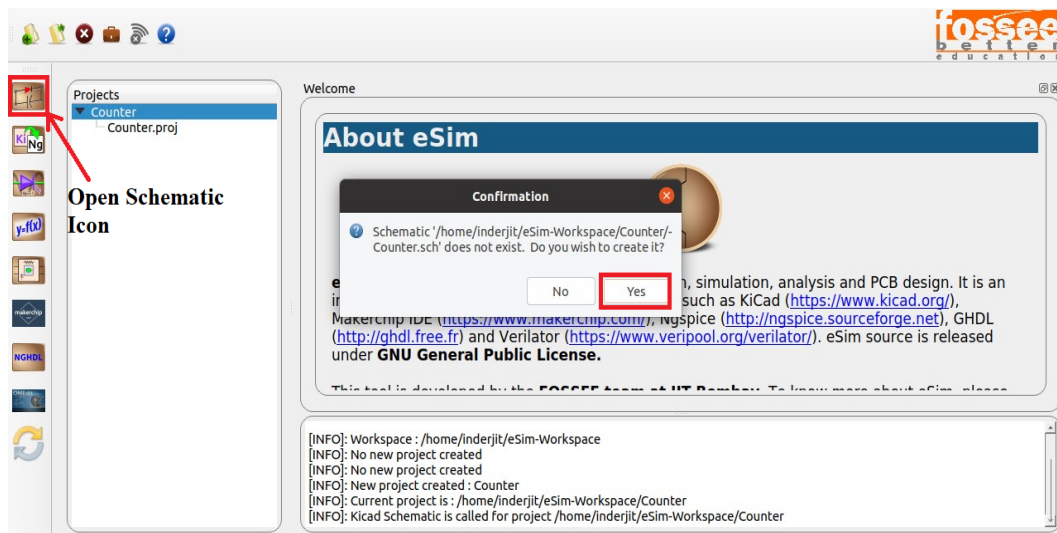
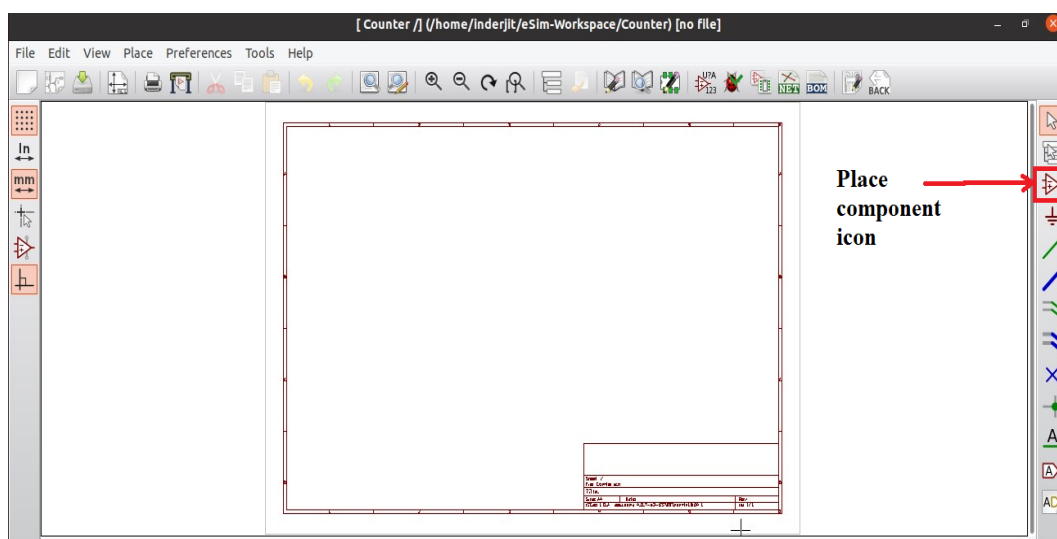
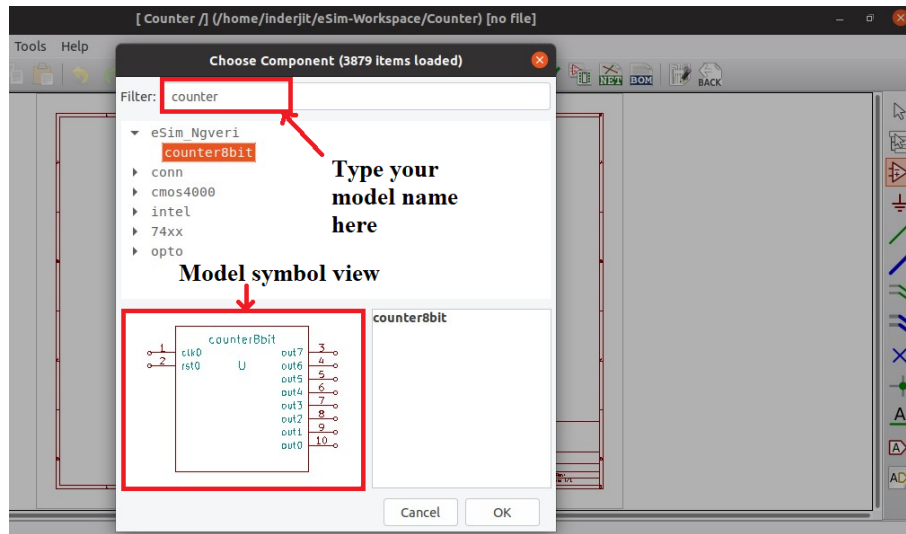
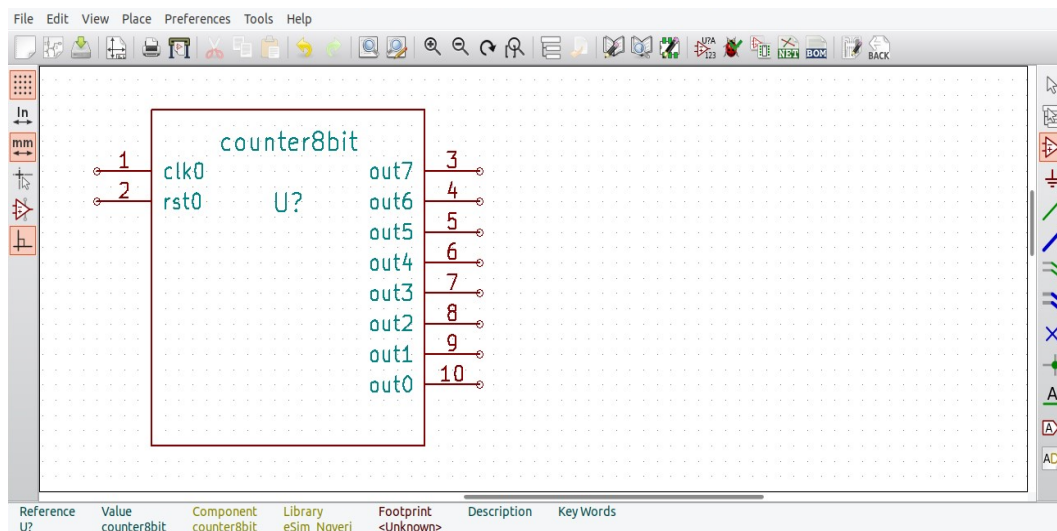

Figure 11.27: Creation of new schematic in eSim
Figure 11.28: Blank schematic created in eSim
Figure 11.29: Locating the model in library
Figure 11.30: Placement of component in Schematic Editor
2. After successful creation of NgVeri model using the Verilog code, you can create the schematic of your design by clicking on **Open Schematic** button on the left pane of the eSim window as shown in Fig. 11.27. A confirmation pop-up window appears. Click on **Yes** to create a new schematic. A blank schematic created is shown in Fig. 11.28
3. Next step is to click on **Place component** icon to place the components in the schematic editor as shown in Fig. 11.28.
4. To locate the components in eSim library, click on **Place component** icon as shown in Fig. 11.28. A pop-up window named **Choose Component** appears. User can type component name in the space as shown in Fig. 11.29.
5. In this example, counter8bit model is created under eSim NgVeri library. The model view is visible with two input pins reset and clock and 8 output pins from out0 to out7 as shown in Fig. 11.29. Click on **OK** to place the component on the schematic editor as shown in Fig. 11.30.